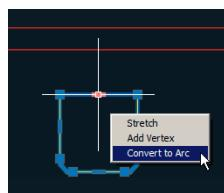

FIGURE 7.3 Converting a straight polyline segment into an arc
8. Select the polyline you joined in step 6. Hover the cursor over the top-middle grip, and select Convert To Arc from the multifunction grip menu that appears (see Figure 7.3).